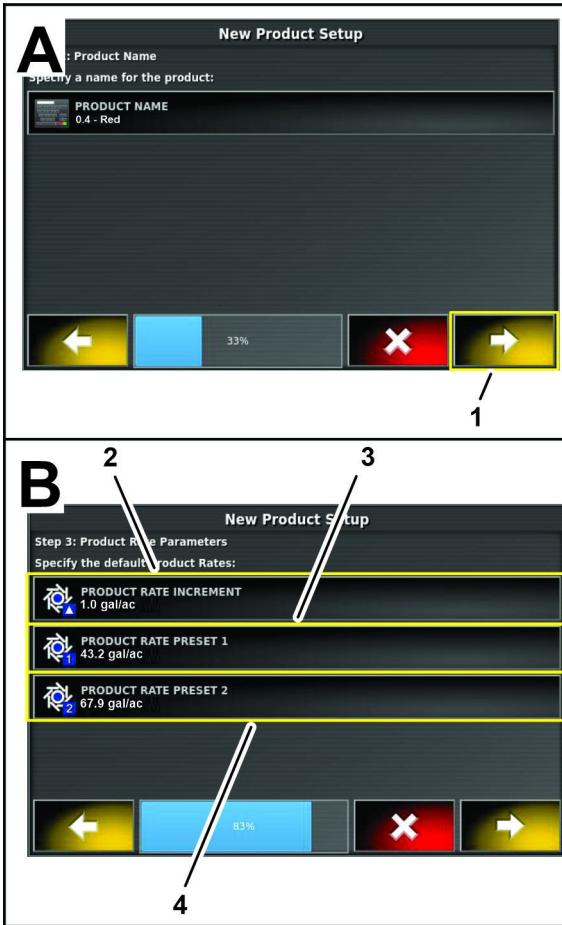

Figure 119
8. On step 2 of the new product setup dialog box, press the NEXT icon (Figure 119).
- 9. On step 3 of the new product setup dialog box, press the PRODUCT RATE INCREMENT icon (Figure 119).
- 11. On step 3 of the new product setup dialog box, press the PRODUCT RATE PRESET 1 icon (Figure 119).
- 13. On step 3 of the new product setup dialog box, press the PRODUCT RATE PRESET 2 icon (Figure 119).